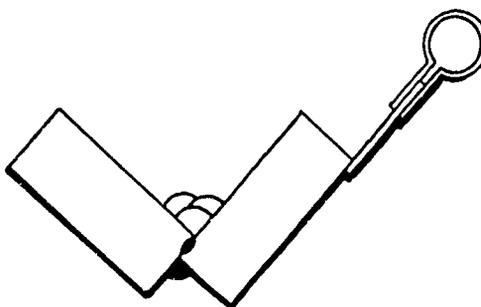

FIGURE 4
- I. Run three stringer beads overlapping each as shown in Figure 4